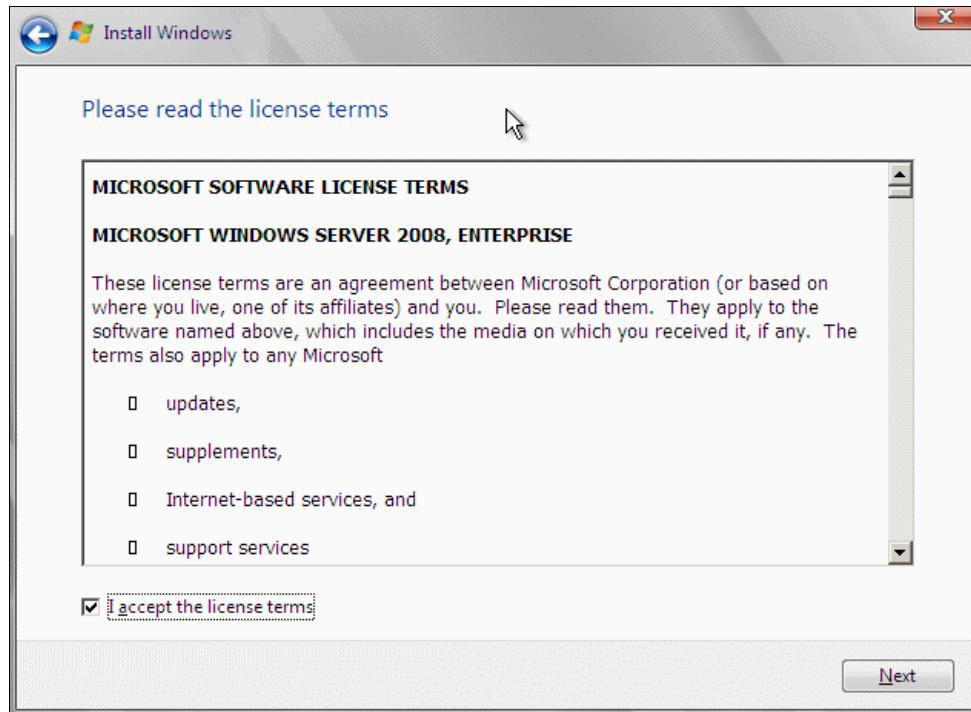

Figure 18-42 Accepting the license terms
5. Select **I accept the license terms** and click **Next** as shown in Figure 18-42.